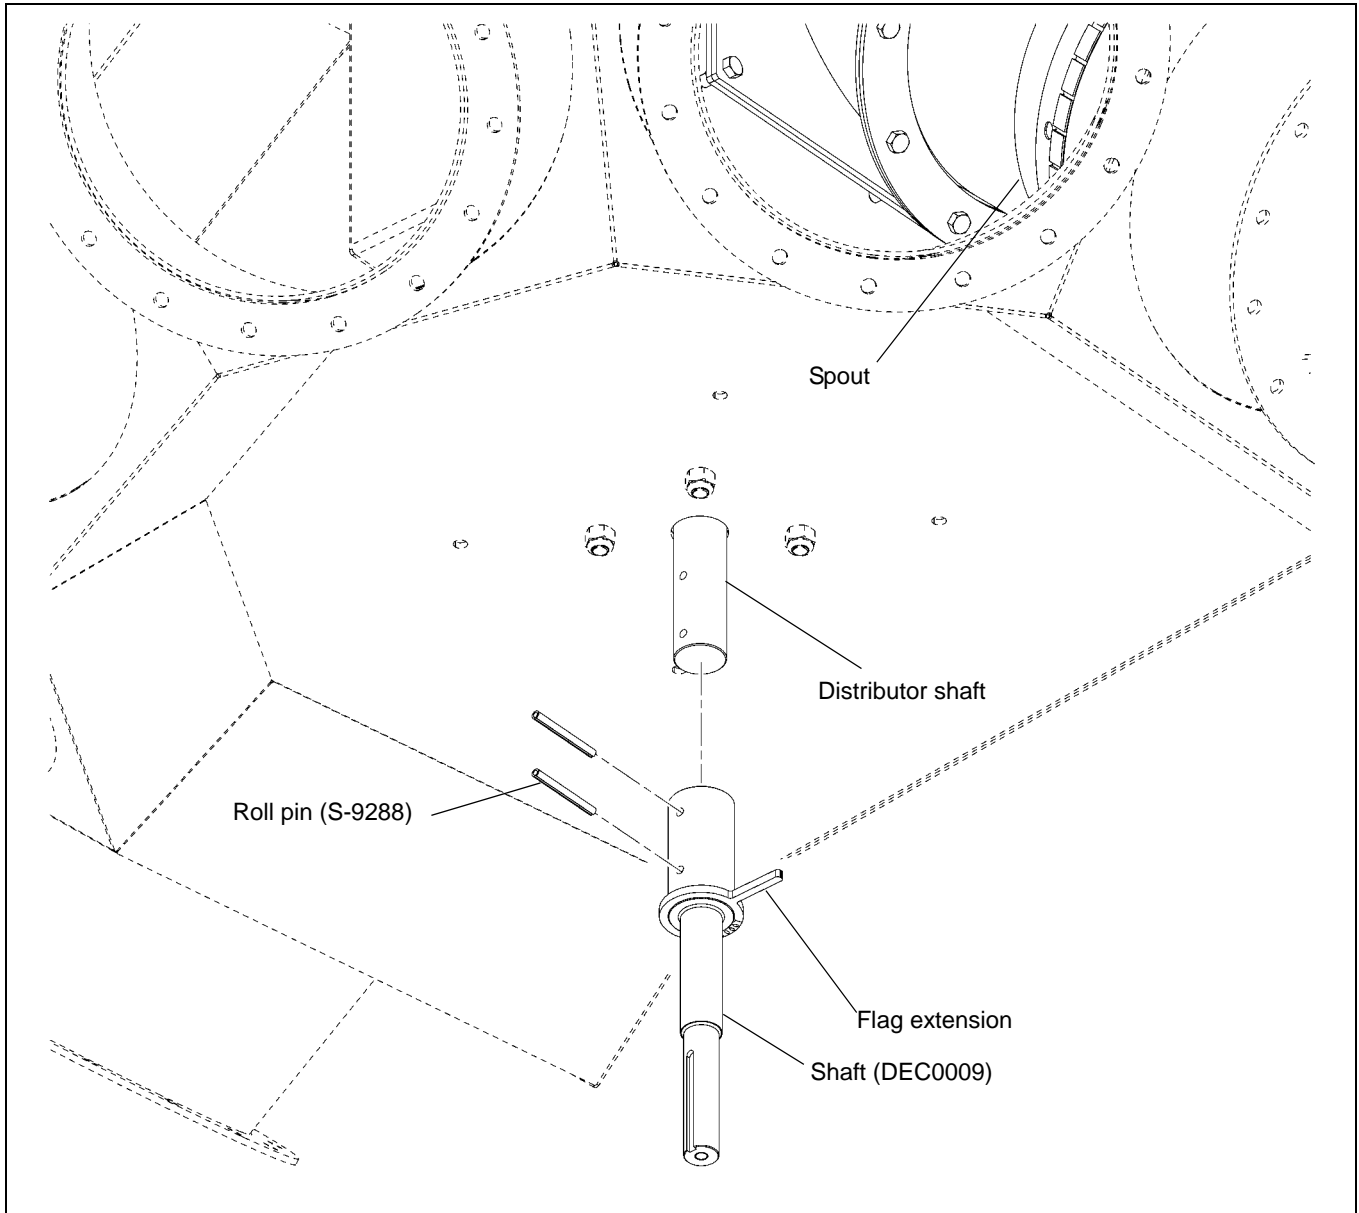

Figure 2A Electronic Distributor Control Shaft
Install the shaft (DEC0009) to the distributor shaft using two (2) roll pins (S-9288). **NOTE:** Flag extension should be installed in line with the spout to ensure proper alignment with the sensor. (See Figure 2A.)